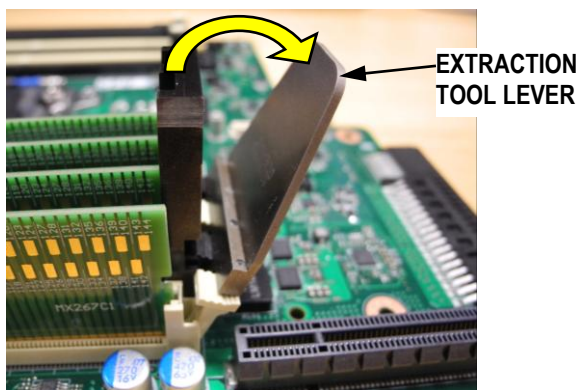

Figure 5
6. Grasp the extraction tool lever and pivot it away from the socket to extract one side of the memory modules. There is a built-in stop on the tool to prevent the latches from being swung too far open. See Figure 5.